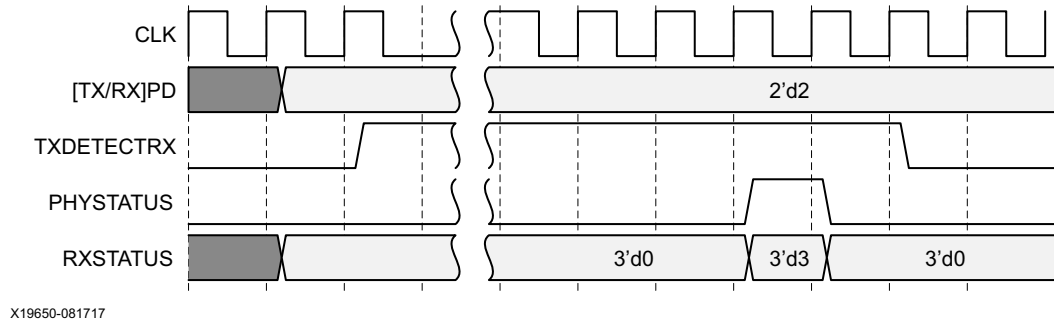

Figure 3-33: PCI Express Receiver Detection
While in the P1 power state, the GTY transceiver can be instructed to perform a receiver detection operation to determine if there is a receiver at the other end of the link. Figure 3-33 shows an example use mode on how to perform receiver detection in PCI Express mode.
**Note:** Figure 3-33 shows the sequence of events for the receiver present case and is not drawn to scale.
Notes relevant to Figure 3-33: